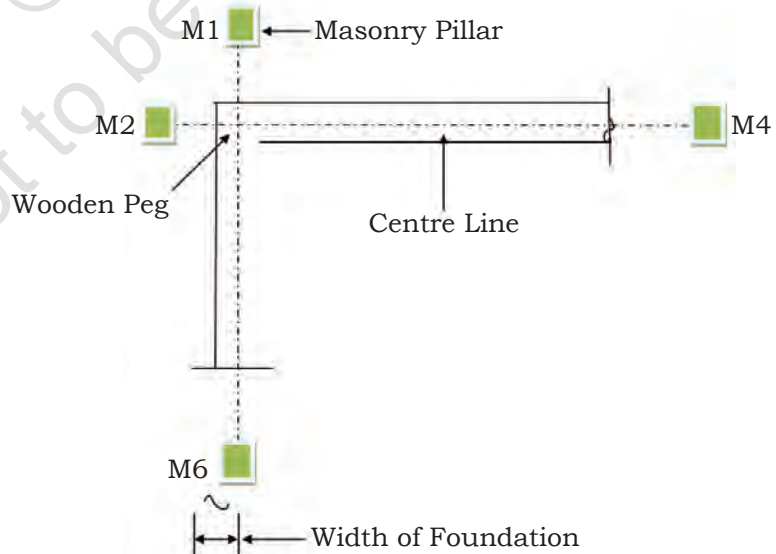

Fig.5.2 : Line-out for Foundation
6. Along centre line pegs, masonry pillar(MP1) (one brick × one brick) shall be constructed at a distance of approx. 2 metre from the centre line. (Fig. 5.2)